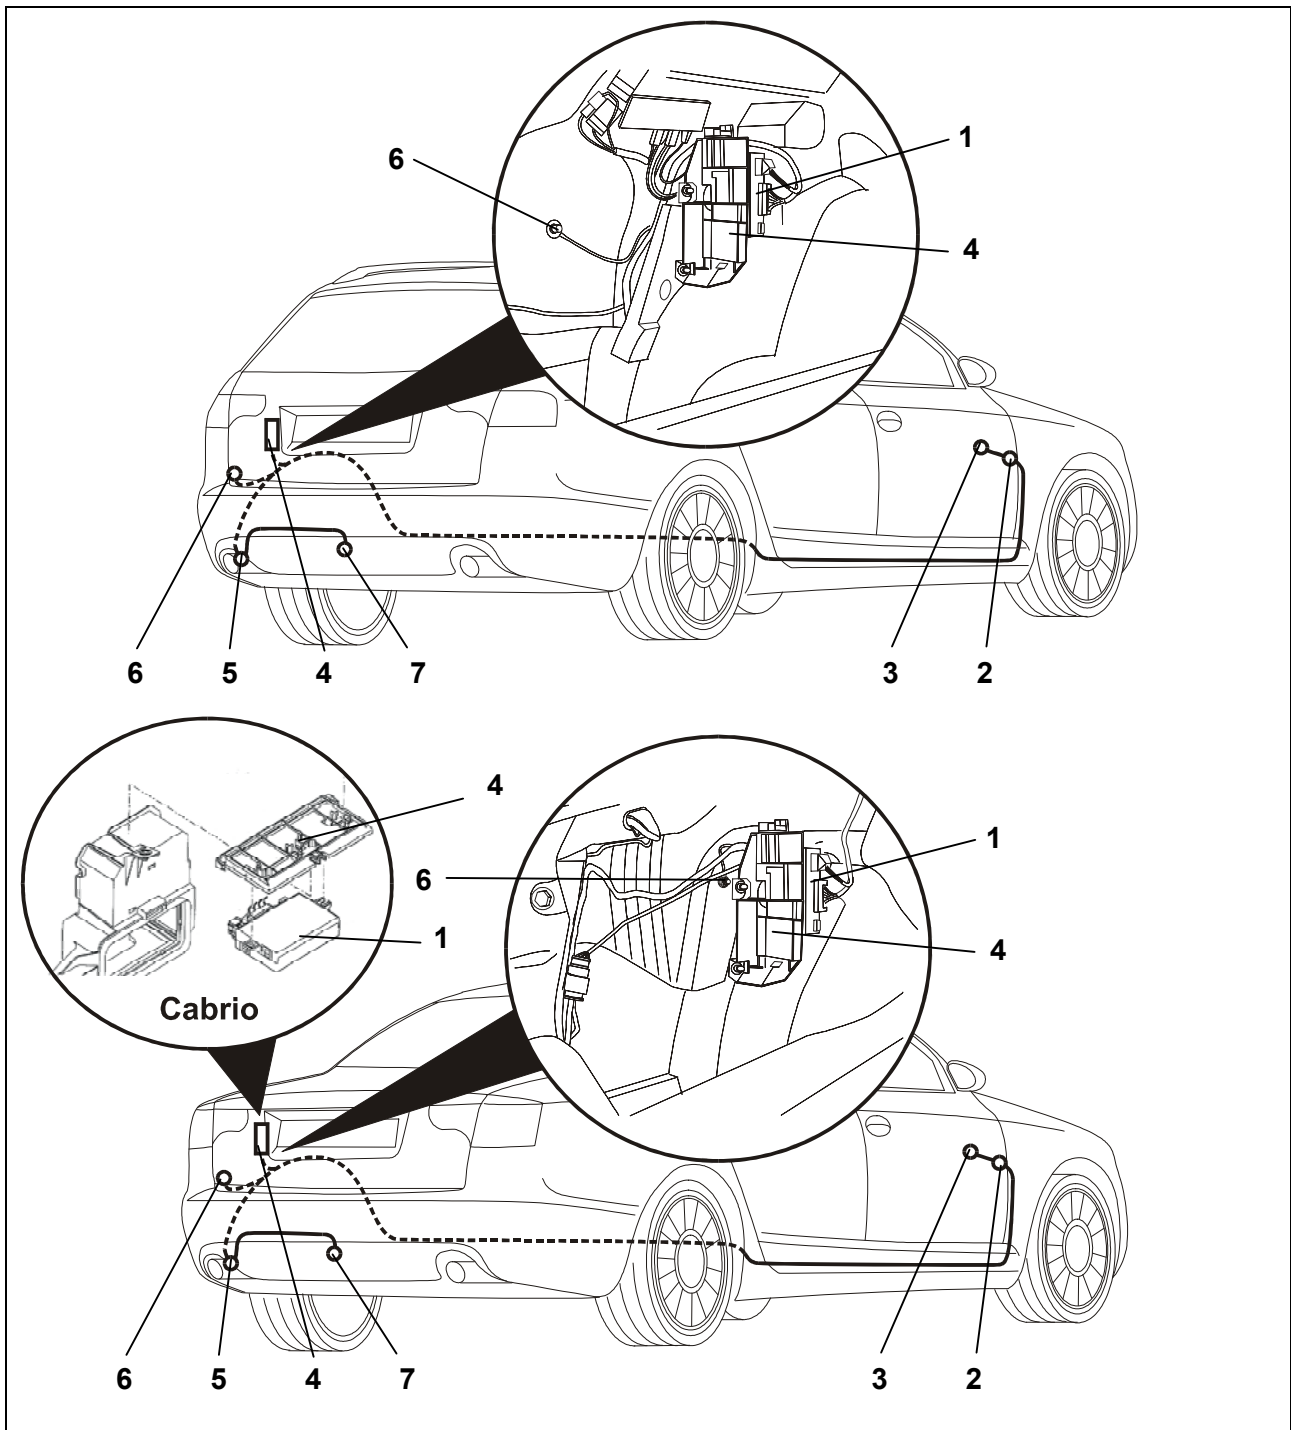

Fig. 1: Installation overview
3. Remove the cover from the 40 mm hole in the floor panel, below the left tail light (Fig. 1/5).
4. Route the end of the cable with the 14-pin and 6-pin plugs from outside through the hole to the equipment rack (Fig. 1/4).
5. Insert the rubber grommet in the hole (fig. 1/5).
6. Route the end of the cable set with the socket to the socket mounting plate (fig. 1/7).
9. Secure the socket to the mounting plate with the screws provided (Fig. 1/7), torque setting: max. 2.0 Nm.. If necessary shorten screws.
10. Fit the trailer connection unit into the equipment rack on the rear, left-hand side of the vehicle facing the direction of travel (Fig. 1/4).
11. Plug and lock in the 14-way and 6-way plug housings of the cable set in the sockets provided on the trailer connection unit (Fig. 1/1).
12. Connect the brown wires with eyelet to the vehicle ground point (Fig. 1/6) by the equipment rack.
13. Route the cable set over the left wheel housing up to the rear bench seat, then across from left to right and along the existing cable looms / cable ducts on the driver's side up to the control unit for the vehicle electrical system in the driver's footwell (Fig. 1/3).
14. Disconnect the grey 32-pin plug from the control unit (Fig. 1/3) and open the purple catch. Release the following wires and insert into the black 3-pin socket housing on the cable set:
17. Close catches and reconnect plug to the control unit (Fig. 1/3).
19. Remove the black cover on the fuse box (Fig. 1/2) and open the purple catch.
20. Remove 10A fuse from pos.5, release the black/red, fuse-protected wire from chamber 5 and insert into the 1-pin housing on the cable set.
23. Insert the single 2.5mm² red/black wire into chamber 27 on the fuse box (Fig. 1/2).